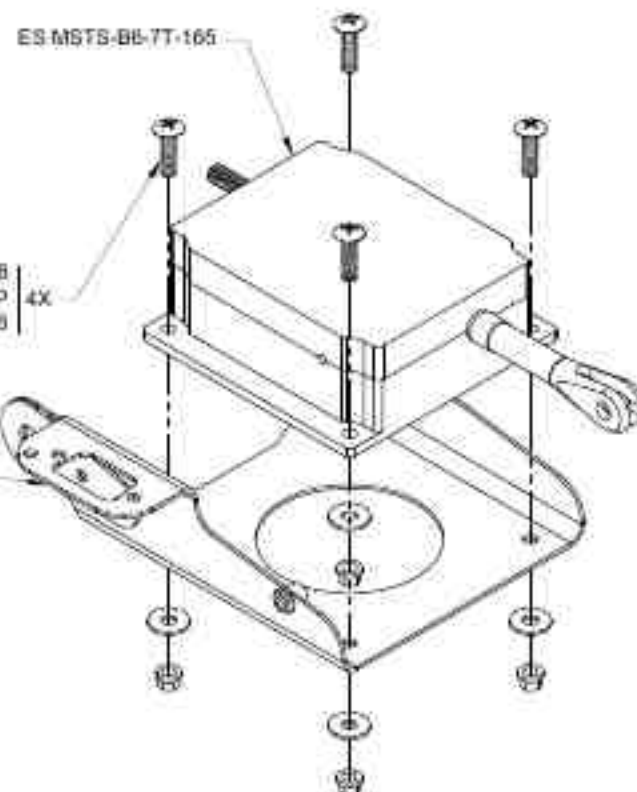

FIGURE 1: INSTALL SERVO
Step 2: Install the Pitch Trim Servo to the F-1287A-1 Servo Tray using the hardware called out in Figure 1.